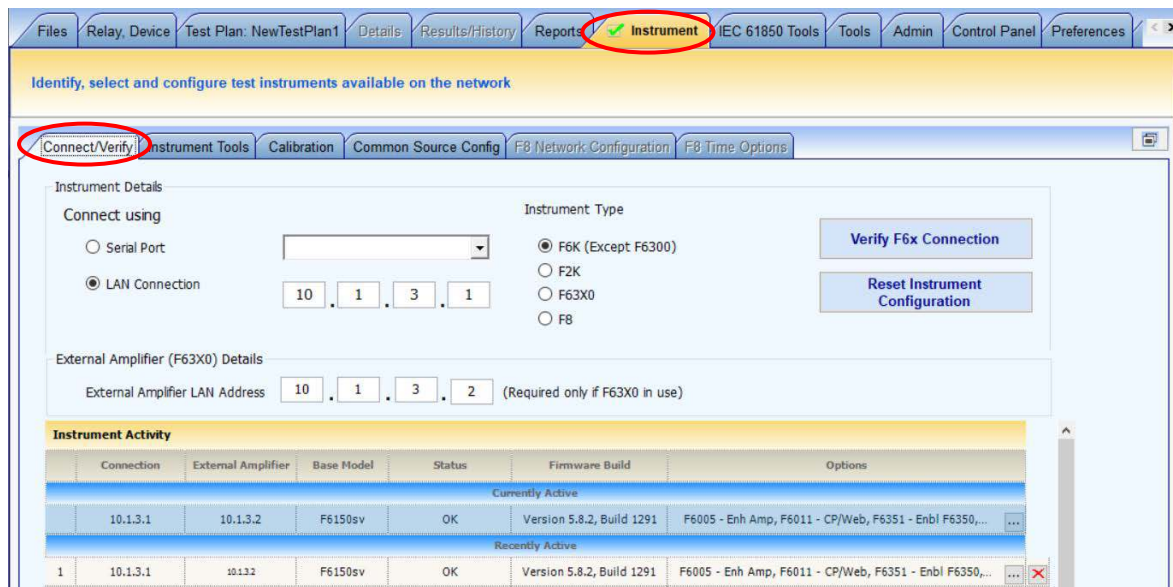

Figure 11. Reconnect to the F6150 instrument
33) Navigate to Instrument > Connect, Verify (format is “top tab > bottom tab;” see Figure 11)